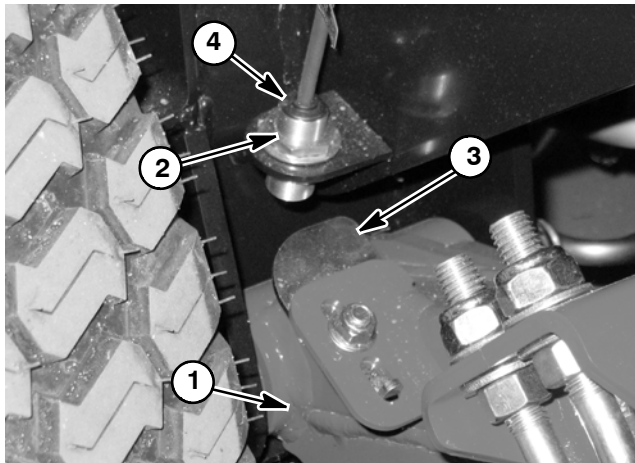

Figure 80
Three (3) cutting deck position switches are used on the Groundsmaster 4000-D and 4010-D. These switches are located on the traction unit frame (Figs. 80 and 81). The position switches are powered proximity switches that incorporate an internal reed switch and a LED. The deck position switches are used as inputs for the TEC controller to prevent deck operation when a cutting deck is raised. The switch sensing plates are attached to the cutting deck lift arms. The position switches for front and side decks are different.
3. Turn ignition switch to the RUN position (do not start engine) and check LED on cable end of position switches (Fig. 80 or 81). Switch LED **should be** illuminated when the cutting decks are fully lowered.